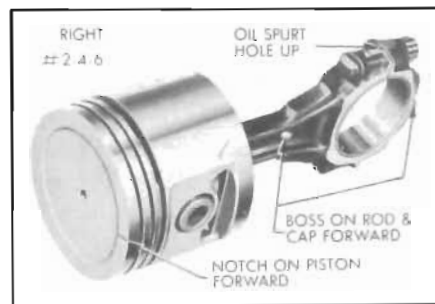

Figure 2-39—Right Bank Piston and Rod Assembly
3. If the piston and rod is to be installed in the right bank, the assembly must be made as shown in Figure 2-39.